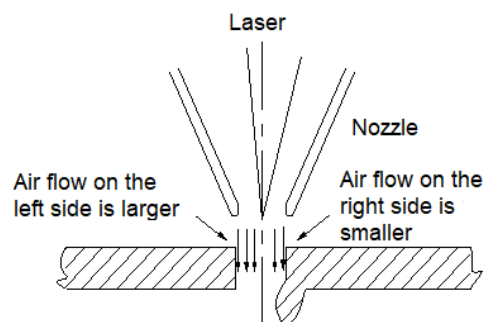

Figure 3 Coaxiality Influence on Cutting Section
7. Shown as "Figure 3", when auxiliary gas sprays out from the cutting torch, the air flow is uneven, and the phenomena occurs with one side melt stained and the other side not. There is a little effect when cutting thin plate with thickness less than 3mm, while there is a severe effect with thickness greater than 3mm and sometimes the plate cannot be cut through.